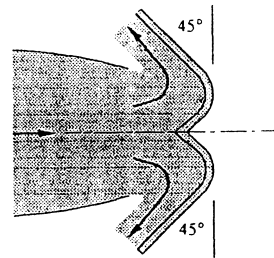

Fig. P3.71
3.71 Suppose that a deflector is deployed at the exit of the jet engine of Prob. 3.50, as shown in Fig. P3.71. What will the reaction R_x on the test stand be now? Is this reaction sufficient to serve as a braking force during airplane landing?